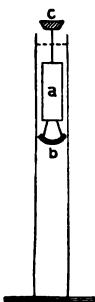

Fig. 47.
Make a Nicholson's hydrometer (Fig. 47, *a*), as follows:—
13. If 30 gms. sink hydrometer, if sand plus 20 gms. sinks it, and if sand on lower pan plus 25 gms. sinks the instrument, what is the sp. gr. of the sand? [Fig. 47.]